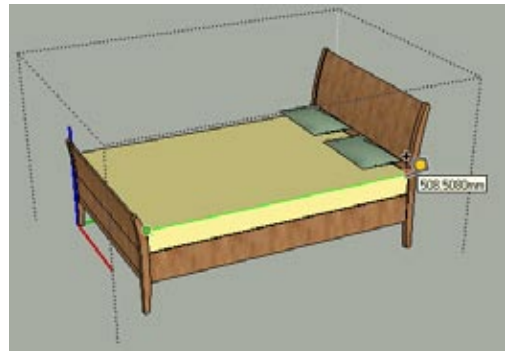

Figure 10-47
6. Open the bed component for editing. Activate Tape Measure and click two endpoints along the length of the mattress. The measured length is about 510mm (Figure 10-47).